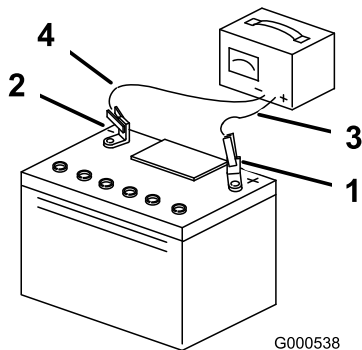

Figure 51
5. When the battery is fully charged, unplug the charger from the electrical outlet, and disconnect the charger leads from the battery posts (Figure 51).